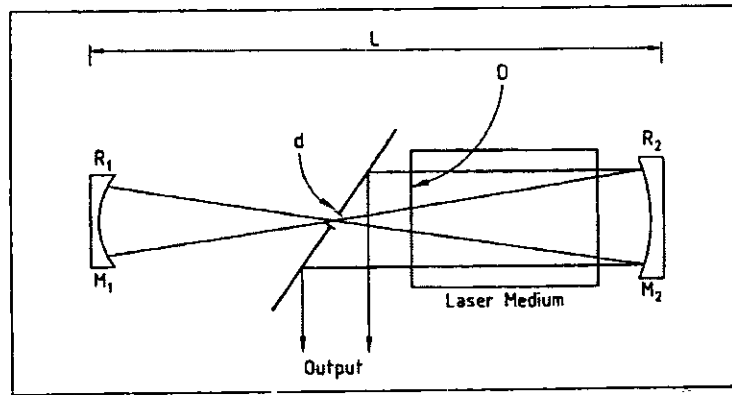

Fig.1. Schematic of Q-switching Nd:YAG laser oscillator.
Q₁: For a Q-switching Nd:YAG laser oscillator featuring a negative branch unstable resonator with length ($L=125\text{cm}$) and a magnification of (4) as shown in fig.1: